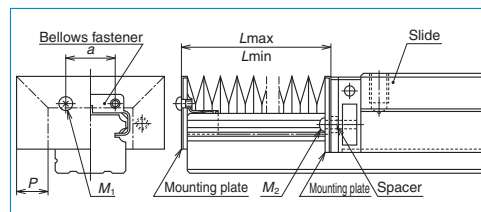

Fig. 7.7
*** Fixing to the ball slide (Fig. 7.7)**
- Remove two machine screws (M_2) which secure the end seals to the end of the slide (**Fig. 7.7**). For NS15, hold the end cap by hand. Otherwise, the end cap is detached from the ball slide, and the balls inside may spill out.
- To install bellows for NH and NS Series, lightly knock a fastener exclusively for bellows to the end of the rail (**Fig. 7.7**). Then secure the mounting plate to the end of the bellows through the tap hole of the fastener.